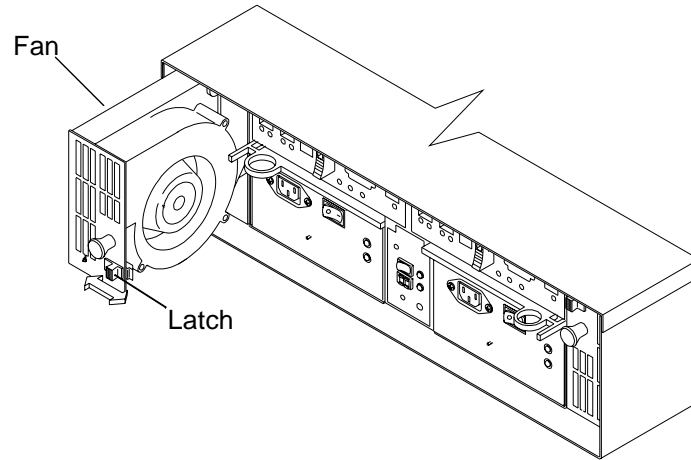

Figure 4-2 Removing and Installing a Fan Module
6. Wearing antistatic protection, slide the latch to unlock the module (see Figure 4-2). The latch is at the bottom of the left-side fan module, and at the top of the right-side fan module.